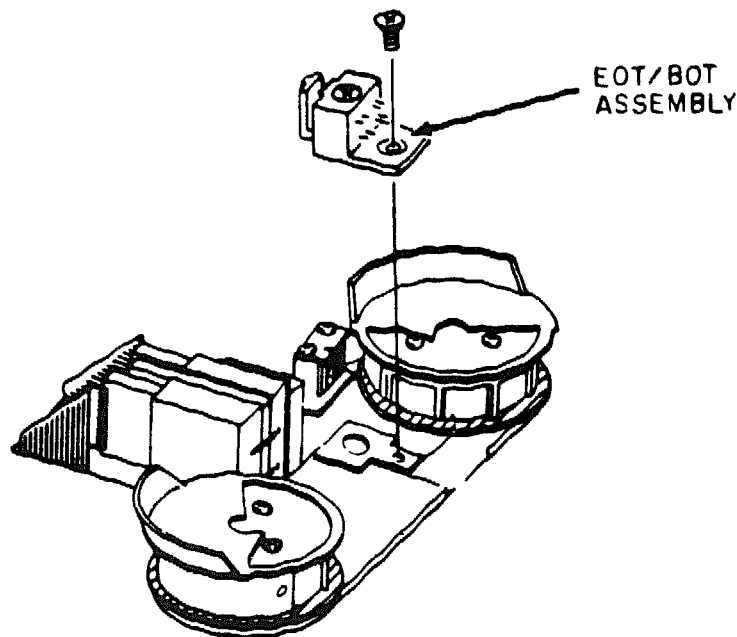

Figure 5-7. EOT/BOT SENSOR
3. Remove the flat head mounting screw from the assembly base-mount and lift the assembly from the tape deck. See Figure 5-7.